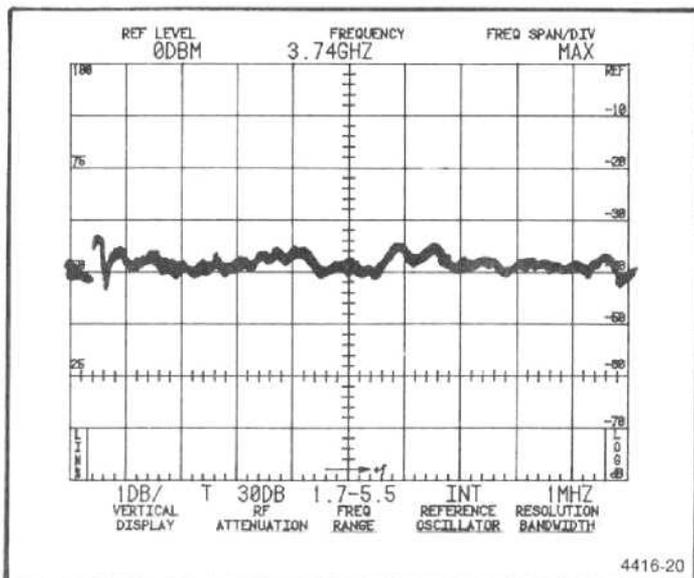

Figure 4-12. Display showing frequency response pattern from a sweeping source.
d. Slowly tune the Signal Generator frequency from 10 kHz to 10 MHz, monitoring the output to ensure it remains constant. Note the frequency response (amplitude deviation above and below the average). Frequency response or amplitude deviation must not exceed ± 1.5 dB from 50 kHz to 10 MHz or ± 2.0 dB from 10 kHz to 10 MHz. (See Figure 4-12 for the average level.)
h. Check the frequency response over the 10 MHz to 1.8 GHz span. Deviation must not exceed ± 1.5 dB (Figure 4-12).